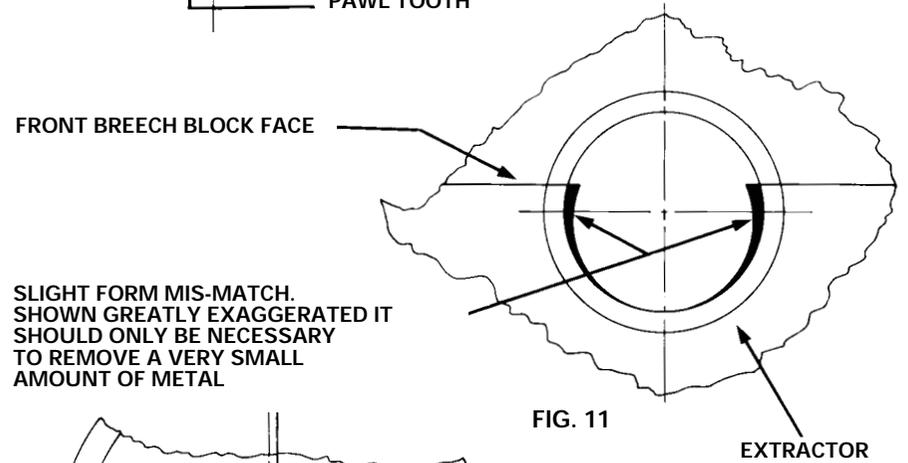

FIG. 11
- (a) If the chamber portion is central to the complete form in the breech block (see Fig. 11) but there is mis-match of the form, then using a super smooth round file, gently remove material until the powerload will insert.
6. Insert the assembly in a smooth-jawed vice, and with a $\frac{1}{4}$ " (6 mm) steel rod pressing against Sear-rod side adjacent to position of half-round groove of pin, squeeze up tight (Fig. 11). This will ensure that the Pin is gripped tight in the Sear-rod and prevents it "working" . It is important that the Sear-rod is exactly central on the pin or assembly difficulties will result.